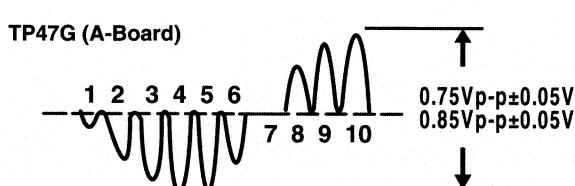

Figure 22. TP47G waveform
- Select DAC Sub-Color Adjustment (B0) and adjust for peak to peak amplitude to be **0.75Vp-p ±0.05V** for 13" models and **0.85Vp-p ±0.05V** for 27" models as shown in Fig. 22.